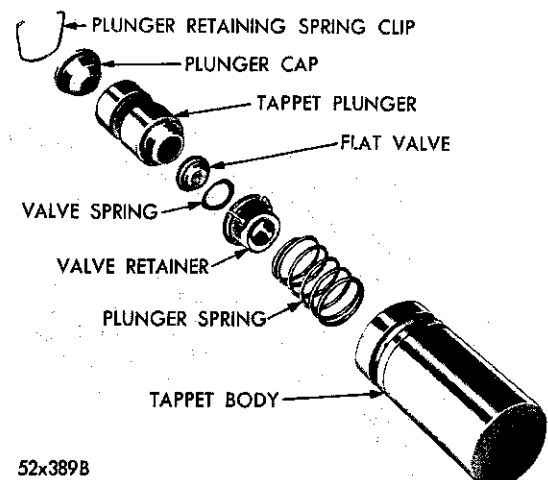

Fig. 17—Hydraulic Tappet Assembly (Disassembled View)
### Disassembly (Fig. 17)
(1) Clean all the tappet parts in a solvent that will remove all varnish and carbon.
(2) Replace the tappets that are unfit for further service with new assemblies.
(3) If the plunger shows signs of scoring or wear and the valve is pitted, or if the valve seat on the end of the plunger indicates any condition that would prevent the valve from seating, install a new tappet assembly.
(4) Assemble the tappets, as shown in Figure 17.